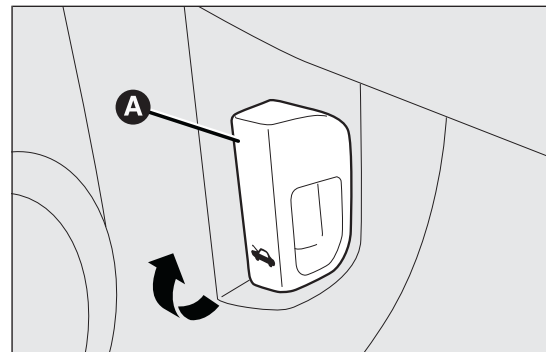

fig. 82
- ☐ pull lever A fig. 82 in the direction indicated by the arrow;